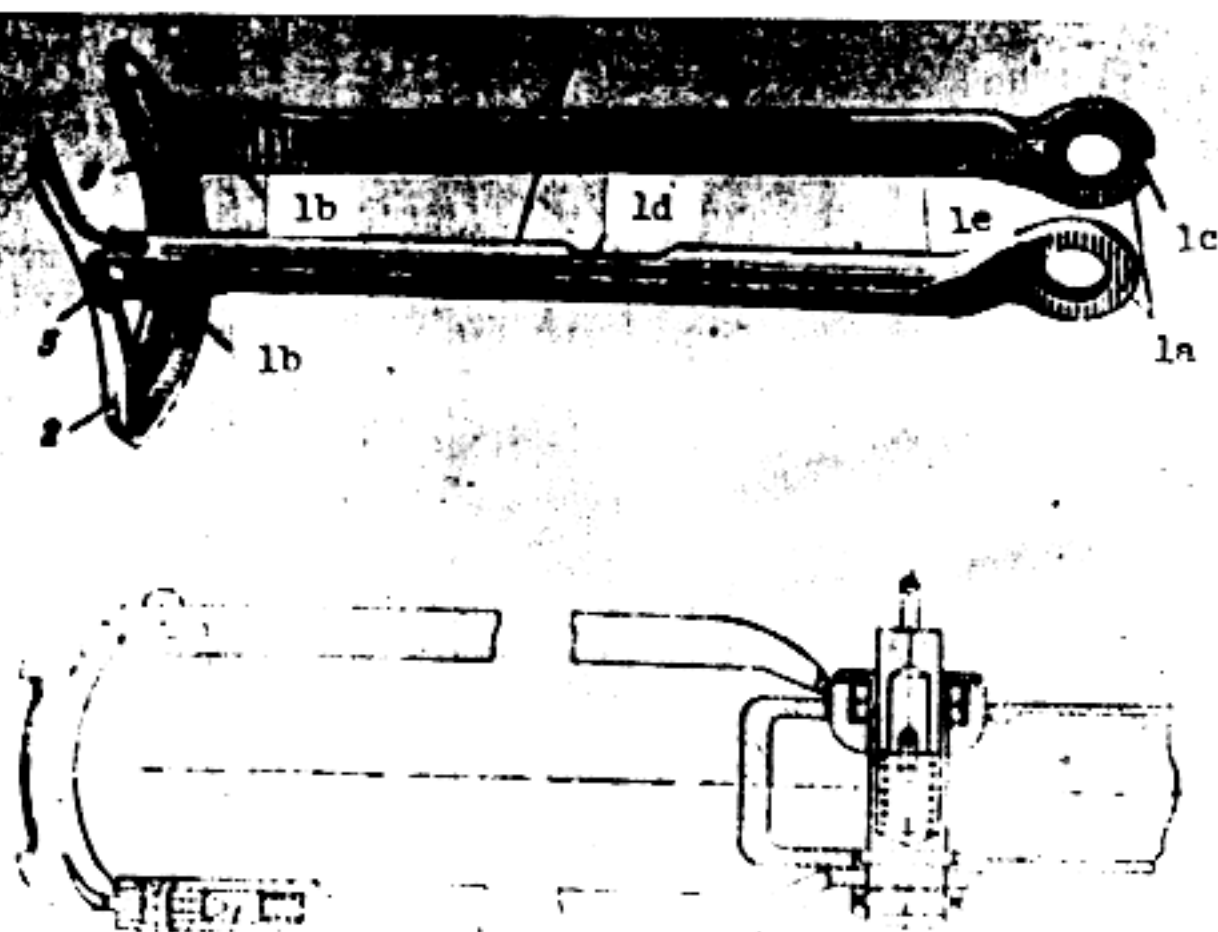

Figure 53. Folding metal stock. (General view and cross section)
The folding metal stock (fig. 53) consists of two bars (1) and a shoulder rest (2).